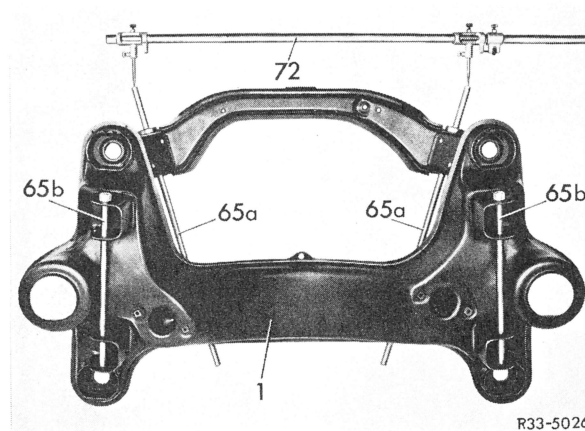

Fig. 9a
8 The measurements are made with a suitable beam compass (Fig. 9a and b). The center bores of the measuring rods serve as measuring points.
Note: The beam compass (72) shown in Fig. 9a and b is a conventional compass of 1,500 mm measuring length, fine adjustment with vernier and round measuring tips.